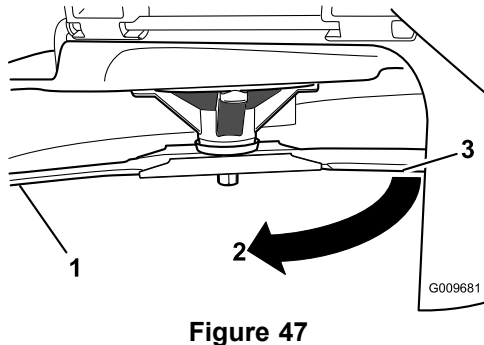

Figure 47
- Measured distance between blade and the surface (A)
- Rotate the same blade 180 degrees, so that the opposing cutting edge is now in the same position (Figure 47).